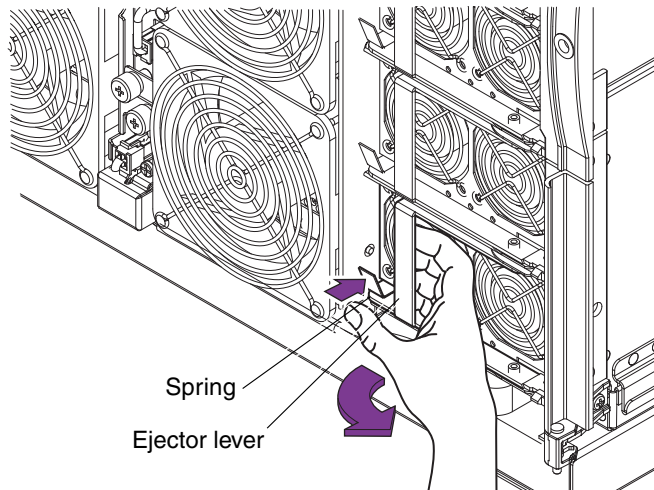
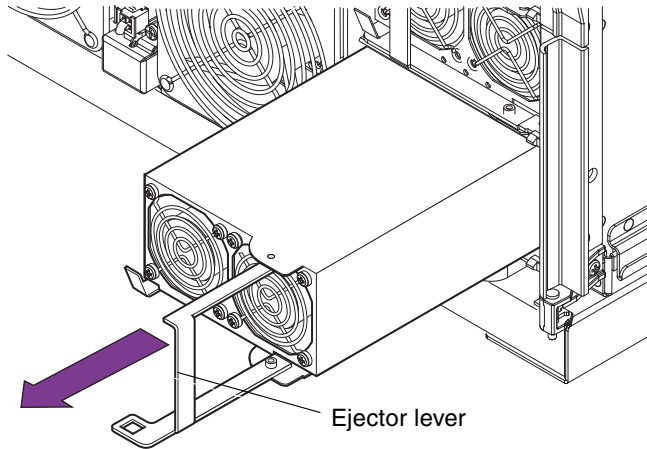

FIGURE 8-2 Unlatching a Power Supply
FIGURE 8-3 Removing a Power Supply
4. Unlatch the power supply (FIGURE 8-2 and FIGURE 8-3).
- b. Remove the power supply from the system (FIGURE 8-3).
3. Extend the ejector lever from the power supply (FIGURE 8-3).